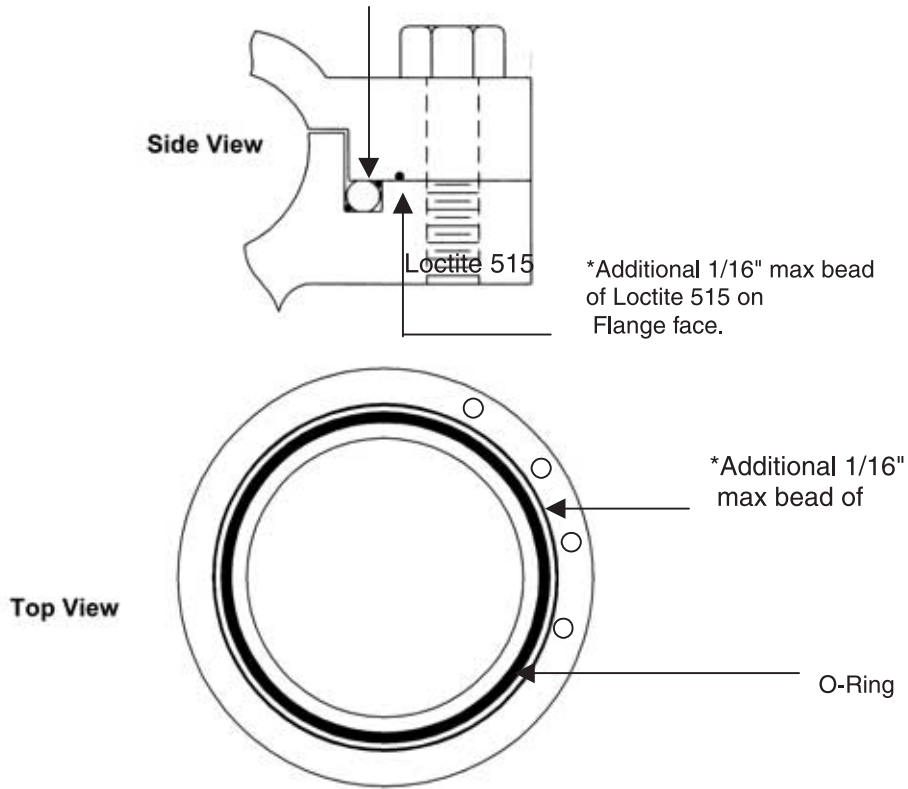

Figure 7: Bolt Connection Modified for Jack-Bolt Hole
In any application using Loctite 515 as a sealant, jack-bolt holes should be present for future disassembly. If jack-bolt holes are not present refer to Figure 7 and the following procedure to tap the casings. The procedure is for CVHE units but can be modified for all other units.
4. To separate the casings, insert the 5/8"-11 bolt as shown in Figure 7. Insert a 1/2" steel ball and the 7/8"-9 bolt. By removing the remaining 5/8"-11 bolts and inserting the rigging and guide pins as necessary to remove the casing, the 5/8"-11 bolts can be tightened until they exert force on the steel balls and the 7/8"-9 bolts. This force, when uniform at all three points, will separate the casings.